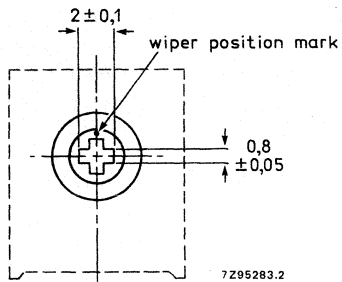

Fig. 3 Cross slot.
1. For details of available slots see Figs 3 and 4.